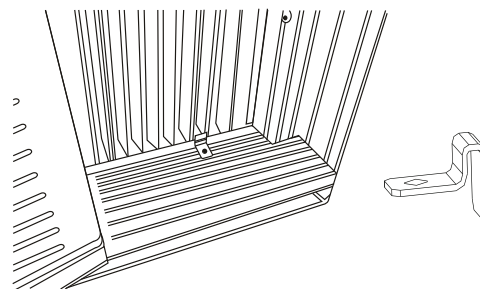

Fig.18C
3. Attach the Lock Frames to the window sill using two $\frac{3}{4}$ " (19mm) screws (Fig.18C) (on some models)